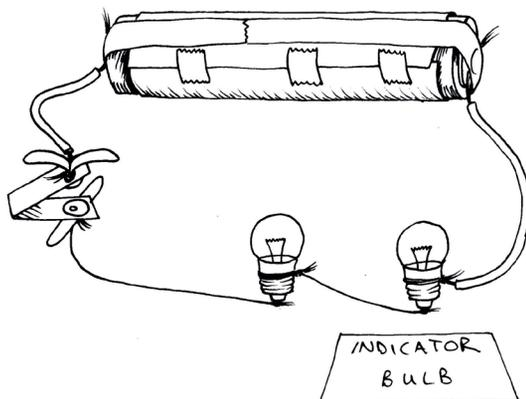

Figure 4
2. Now connect another bulb in the circuit as shown in Figure 4.
Figure 4 shows two light bulbs connected in series to make them light up. Connect them again and try to remember how bright the indicator light bulb glows.
For a start, cover the two bulbs on the left with your hand, and look only at the indicator bulb on the right. It now burns brighter than it did in the circuit in Figure 4. All the current provided by the cell passes through the red wire. But that current is split between the two blue wires.